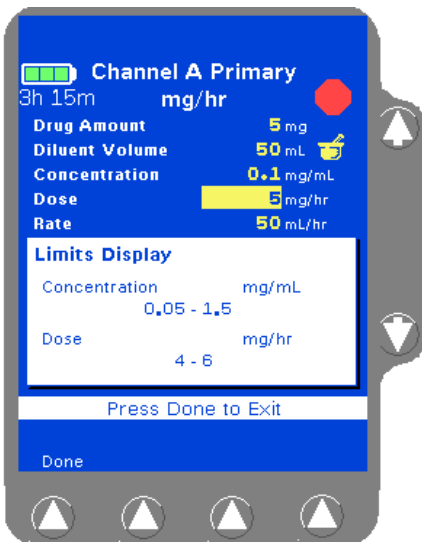

Figure 4-40 COLLEAGUE GUARDIAN Limits Display Pop-up
4. (Optional) To view a pop-up window (Figure 4-40) showing the limits programmed for the label, highlight the **Concentration** or **Dose** fields, then press the **View Limits** soft key. Press the **Done** soft key to close the pop-up and continue. Concentration limits cannot be overridden.